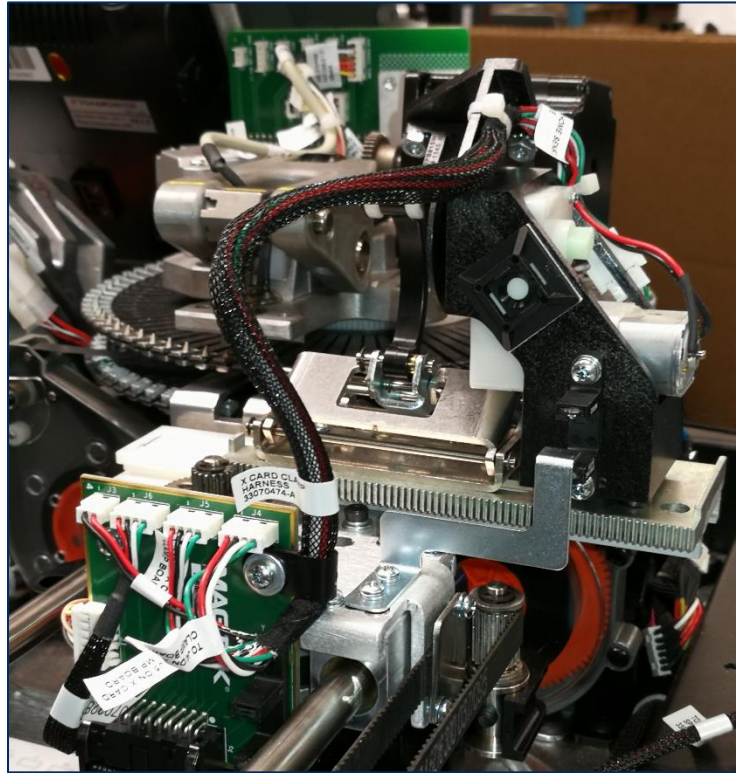

Figure 3-1 - XY Transport Cable Clamp Retrofit Complete
26) Make sure the cable ties, clamps, and cable routing look like **Figure 3-1** below.